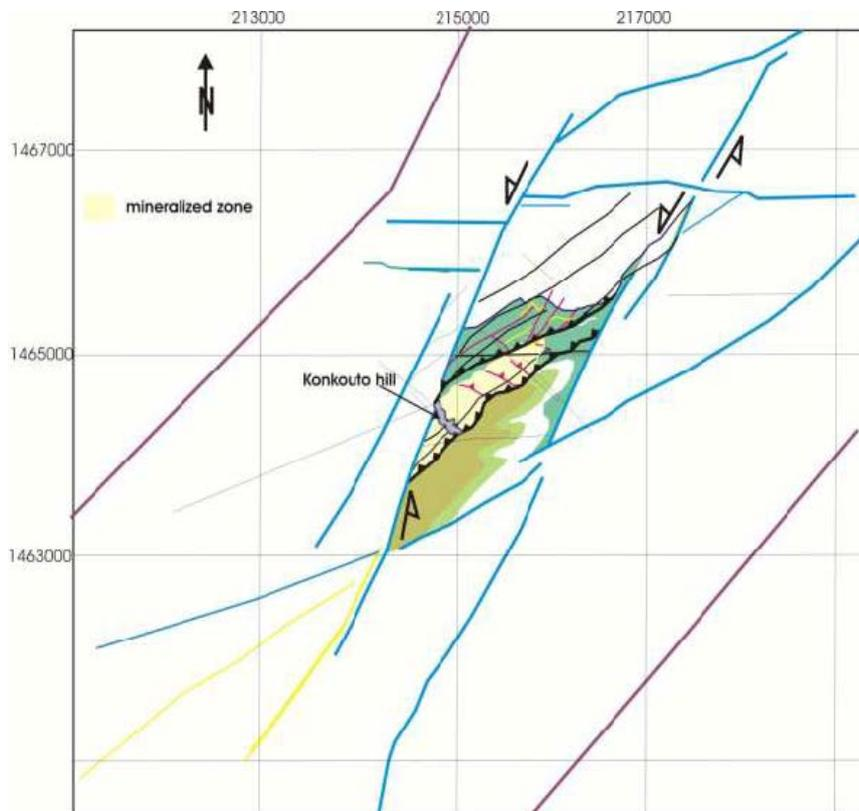

Figure 3 – Konkoutou Hill structural setting
- A shear zone oriented NE-SW which is regionally controlling gold mineralisation (Figure 3)
Structurally, Konkoutou Hill is related to NW-SE thrust zones which are in a NE-SW trending mineralised shear zone. The area includes many mineralised quartz veins. Gold bearing quartz veins occur as fracture filling in a sheared greywacke unit trending NW and dipping to the NE. The mineralised quartz veins have a general NNE-SSW to E-W direction. Quartz veins are sometimes parallel to cleavage and thrust planes and deformed into extensional shear bands (Figure 3).